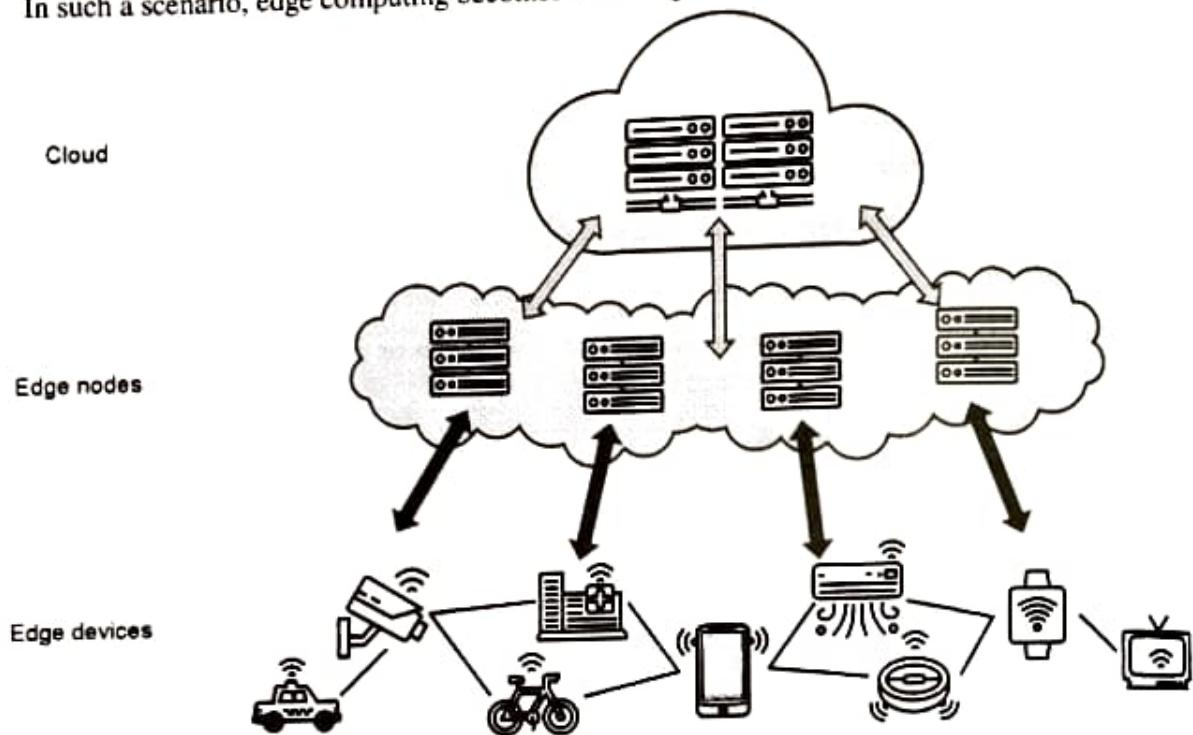

Fig. 4.1.2 : Edge-to-Cloud Platform
- As shown in Fig. 4.1.2, most applications store, manage, and analyze data on a centralized storage like - on a public cloud or private cloud environment.